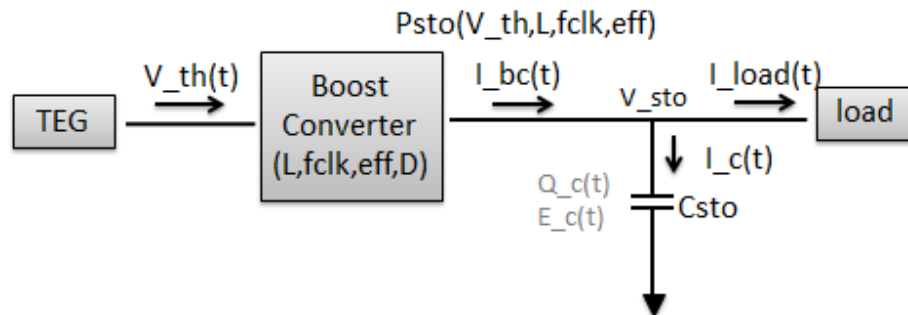

Figure.2 E-harv: BC+Capacitor Block Diagram with Key Parameters
2. A closer view of the energy storage block: we combined the boost converter function block with the storage component. **Figure 2** is the block diagram of the *BC+Capacitor* E-harv block, which will be used for testing illustrations later, with key parameters labeled.